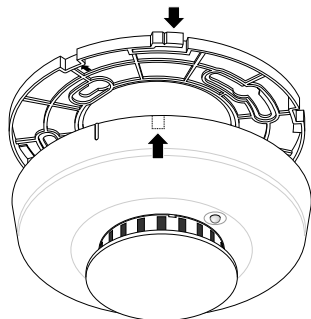

Figure 3. Detector/base lock
1. If you are using the detector/base lock, remove the detector knockout and break off the tab on the mounting base. See Figure 3.